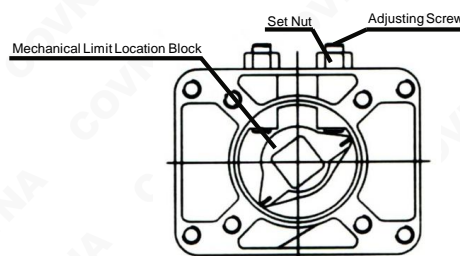

Figure 9
4. Adjustment of mechanical limit location block (Figure 9)